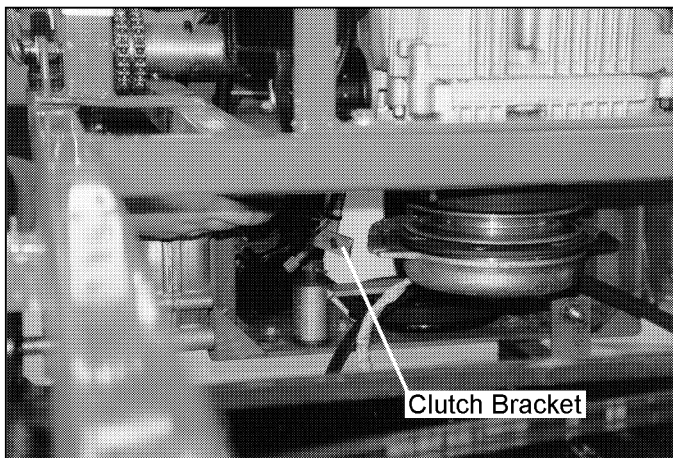

Figure 20
4. Loosen the clutch bracket so the belt can clear it (*Figure 20*).